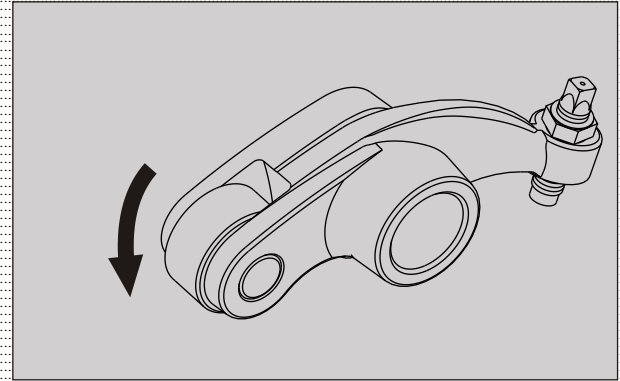

Fig. 3.124
- In TVS Apache RTR arm complete valve rocker has roller follower. Roller follower is a steel roller housed with a needle cage. This decreases the load exerted by the valve train on engine by reducing the friction. (Fig. 3.124)